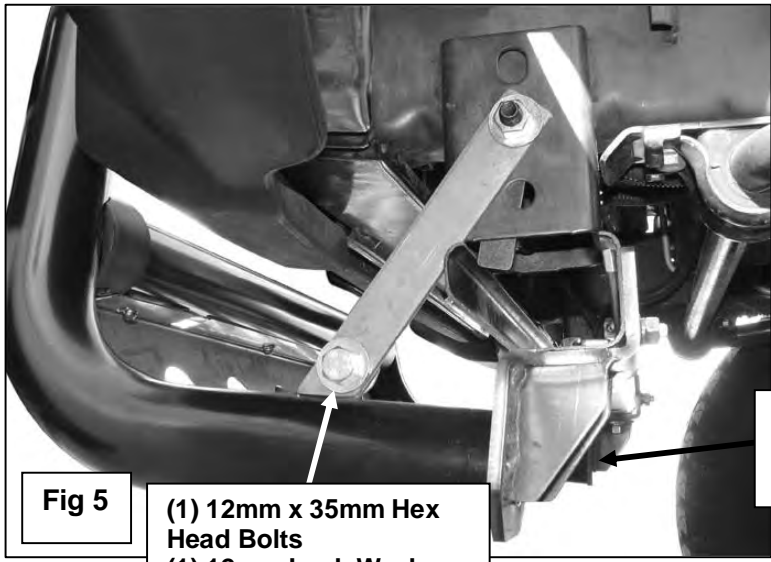

Fig 5
7. With help, position the Bull Bar up to the Mounting Brackets. Use the included (2) 1/2" x 2" Hex Head Bolts, (2) 1/2" Flat Washers and 1/2" Lock Washers to attach the Bull Bar to the Mounting brackets, **(Figure 5)**. Snug but do not tighten at this time.